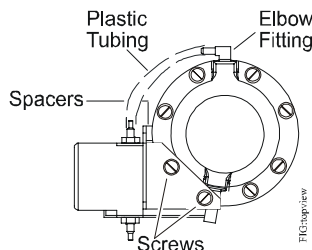
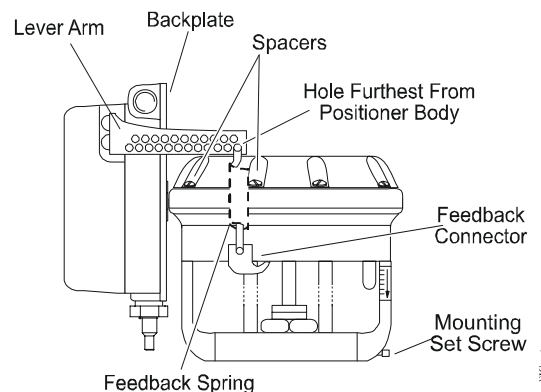

Figure 2: Top View Detail
Figure 3: Actuator and Positioner Assembly
5. Remove the cap and eight screws shown in Figure 2 and Figure 3. Remove the diaphragm and piston cup from the actuator. Replace the existing piston cup and diaphragm with the new ones provided in the kit. Place the diaphragm and piston cup assembly back in the actuator and replace the cap. Replace the screws except the 2 screws noted in Figure 2 (12-16 lb-in [1.3-1.8 N-m] torque recommended).
6. Using two spacers and two long screws, mount the positioner to the actuator as shown in Figure 3.
9. Attach the feedback spring to the positioner in the first hole shown and attached to the feedback connector (Figure 3).